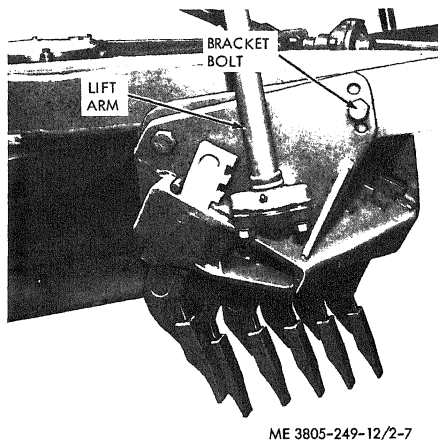

Figure 2-7. Scarifier adjustment.
(1) Lower the scarifier to the ground.
(2) Remove the bracket bolts (fig 2-7).